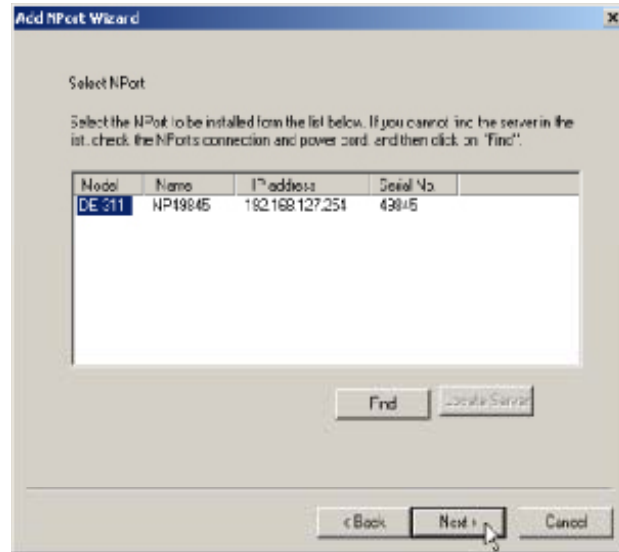

Figure 2-31
18. If a DigiPort is found on the network, the **Select** window opens listing the DigiPort unit. **Figure 2-31**